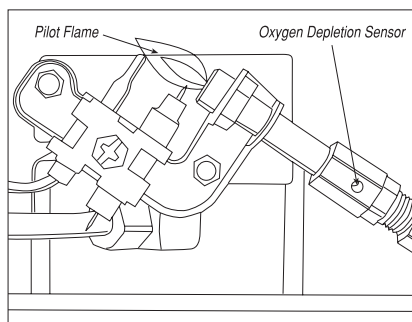

Figure 5
The flame will surround the thermocouple just below the tip, see Figure 5.
- 8 Inspect and clean pilot (mounted to bracket) by using a vacuum or apply air pressure through the holes in the pilot indicated by the arrows in Figure 5.